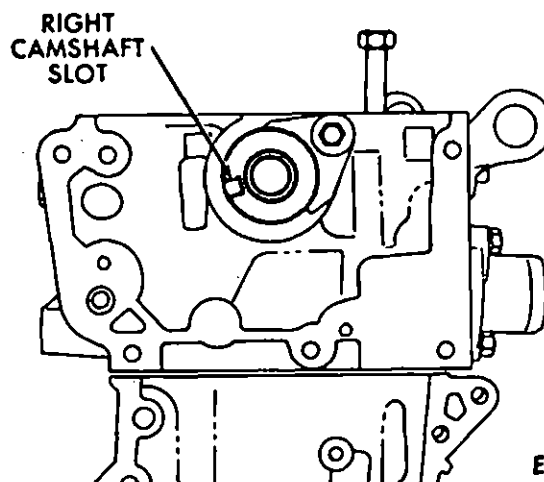

Fig. 14—Position of Keyway Slot
(14) Turn the engine on the stand until the right bank points up.
(15) Pull the cylinder head dowels up using extractor (Tool 7314).
(16) Remove the cylinder liner clamps from the right bank.
(17) Install 3 mm pin punches into the holes in the block below the locating dowels. Push the dowels down until they contact the pin punches.
(18) Install dry, a new cylinder head gasket to the right cylinder head.
(19) Position the right cylinder head over the new head gasket.
(20) Turn the right camshaft until the slot in the front is positioned as shown in (Fig. 14).